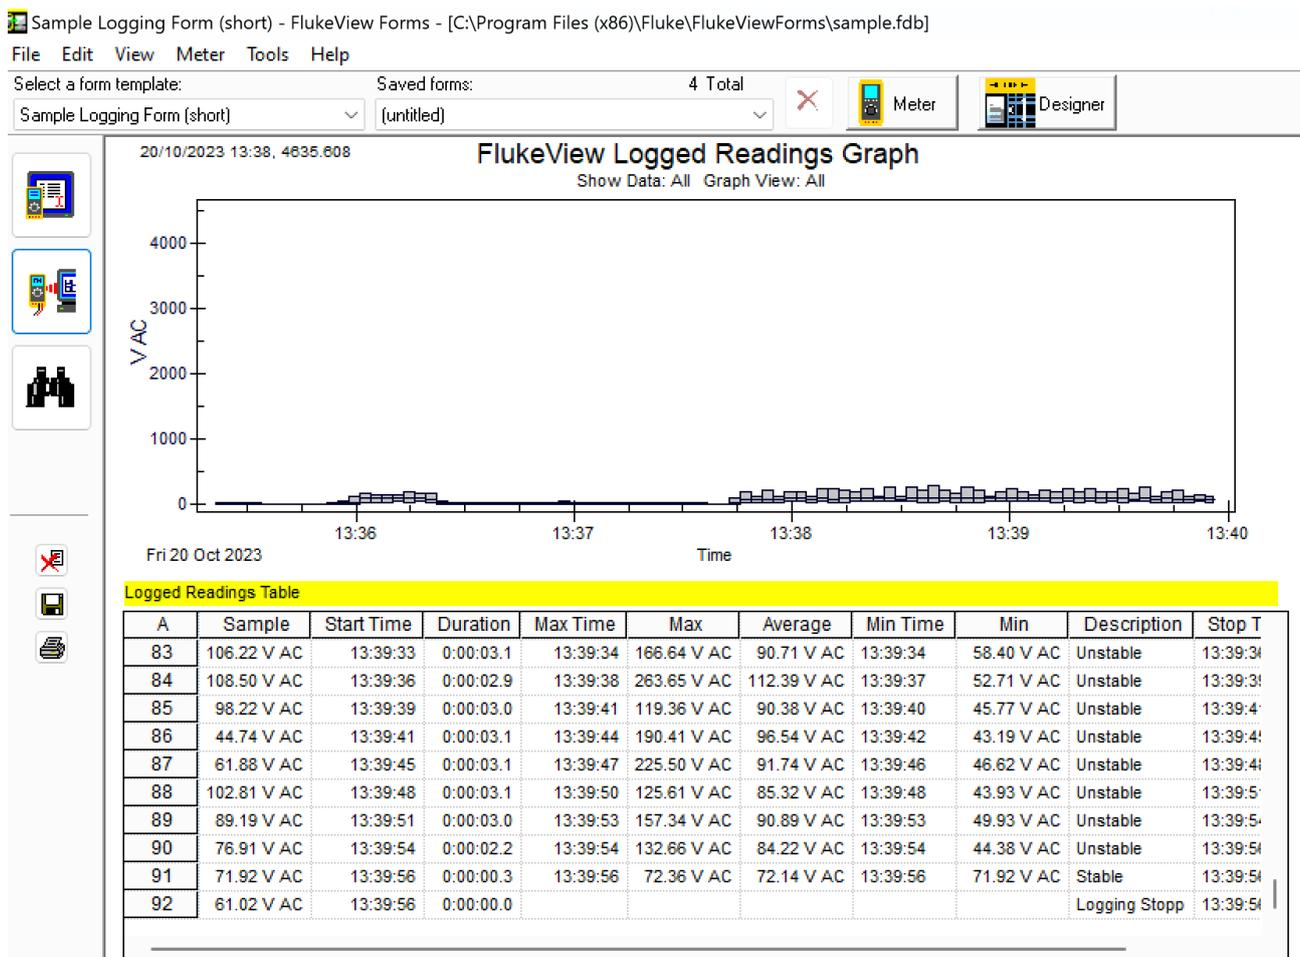

Figure 30. Logging of AC RMS voltages measured across a 0.01 uF capacitor configuration.
- Playing loud music through one channel into a single speaker produced sound pressure levels ~ 85 dB C-weighted as measured on my mobile phone app (Fig. 29), while the maximum True RMS voltage measurements peaked between 250 and 300 VAC (Fig. 30). Depending on your model and version of Acoustat your results could be different from mine.